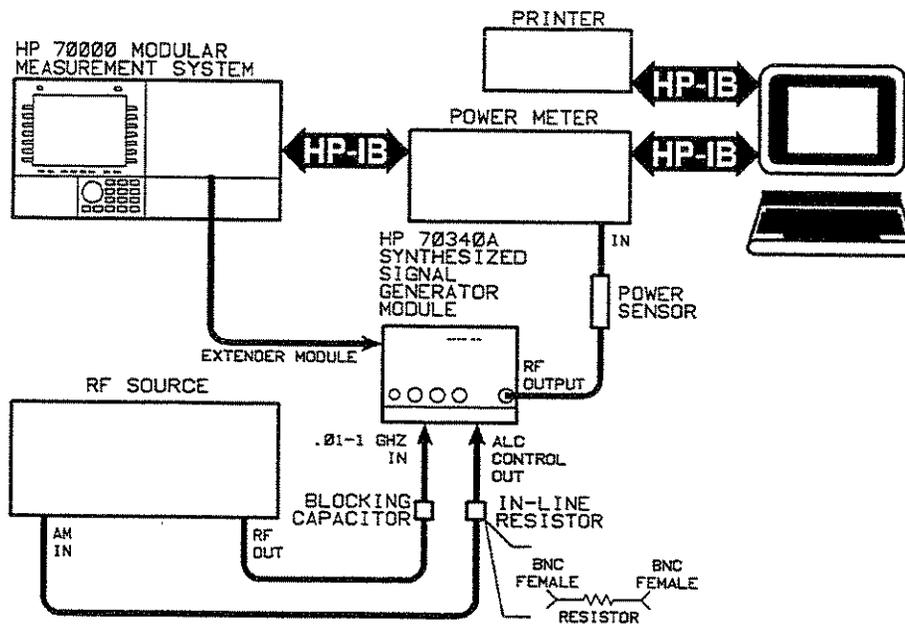

Figure 3-11. Lo Band Frequency Calibration 2 Equipment Setup
2. Set up the equipment as shown in Figure 3-11.